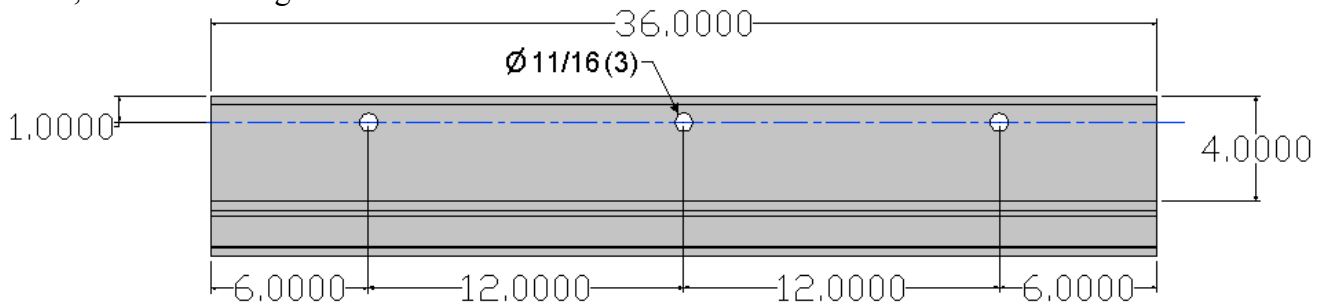

Figure 8 – Top View of Trailer Receiver w/ hole-drilling locations shown
- 1) The user must drill three (3) holes through the 4.375"-wide x 36.00"-long flat portion of each of the trailer receivers, as shown in Fig. 8: